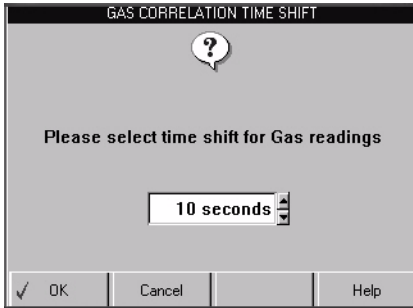

Figure 6.5: Gas Correlation Time Shift Screen
- b On the scan tool, press the **More** function key, use the **Direction** key to select **Gas Options**, and press the **ENTER** key. This displays the Gas Correlation Time Shift screen (Figure 6.5 on page 36).